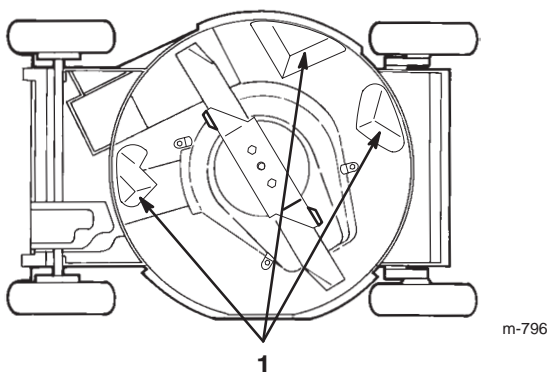

Figure 19
To ensure the best performance, keep the underside of the lawn mower housing clean. Be especially careful to keep the kickers free of debris (Fig. 19).
3. Tip the lawn mower onto its **left** side (Fig. 19).